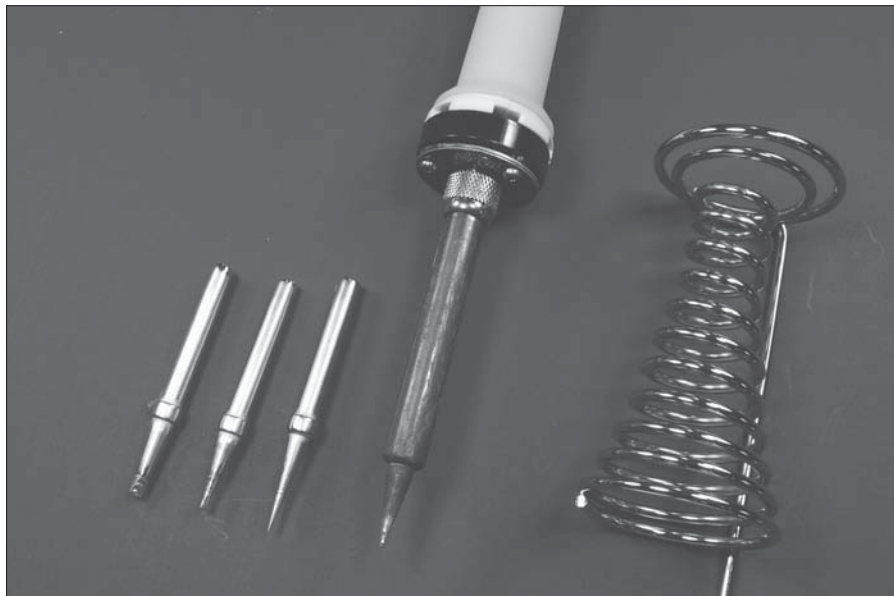

Figure 3-1:
- ✓ **Soldering iron:** See an example of one in Figure 3-1.
- ✓ **Tips:** Large tips can be chisel-shaped and about $\frac{1}{8}$ " wide; small tips can have a cone shape with a radius at the tip of only $\frac{1}{64}$ ". Most soldering irons don't specify the tip sizes that are supplied with the iron. For most electronics work, we suggest you just find one described as a fine tip at an electronics supplier. If you're ordering a replacement tip, a $\frac{3}{64}$ " cone shape is a good size for general use. If you're soldering circuit boards, you might try a $\frac{1}{64}$ " cone-shaped tip. Figure 3-1 shows a soldering iron with a collection of different tip sizes and shapes.